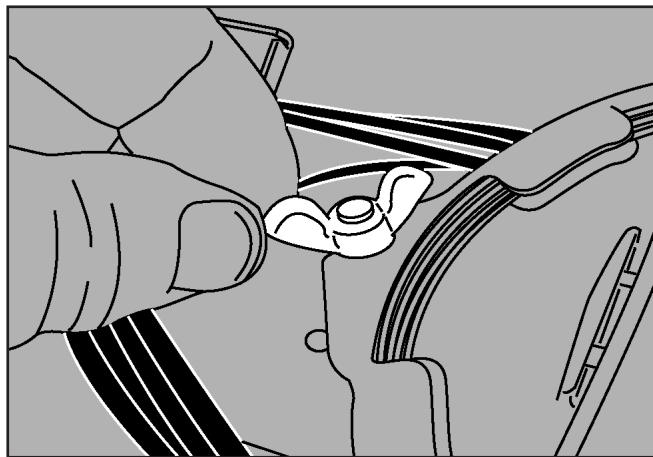

Figure 24
24. Secure the stacked SLIDE-N-LOCK trays in position with a wing/butterfly nut. (Figure 24)